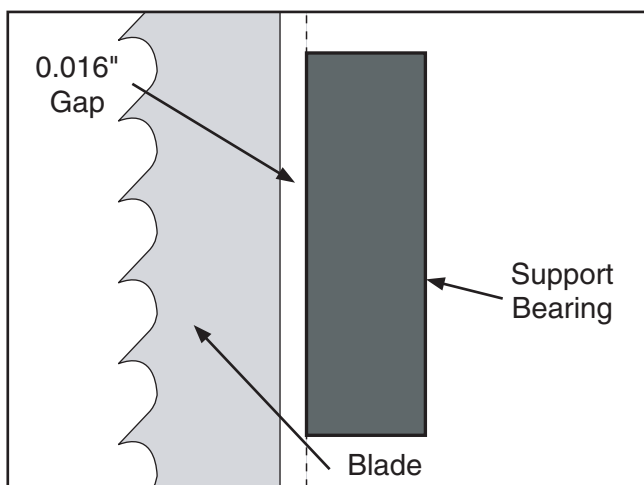
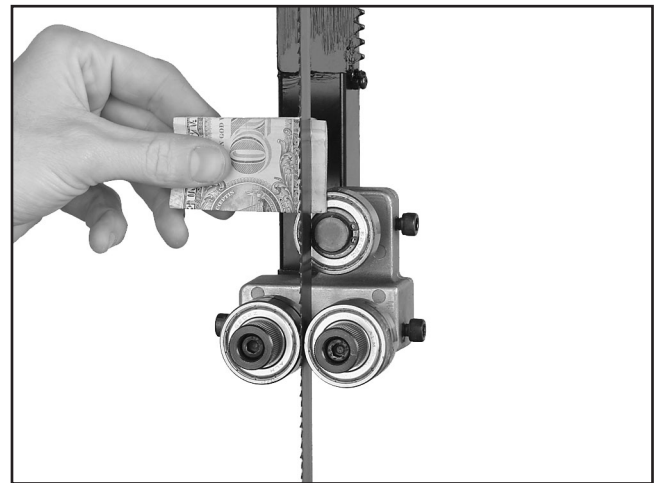

Figure 13. Blade aligned 0.016" away from the bearing edge.
Figure 14. Dollar bill folded twice to make an approximate 0.016" gauge.
- Using a 0.016" feeler gauge between the support bearing and the blade, position the bearing 0.016" away from the back of the blade as illustrated in **Figure 13**.
Note: For a quick gauge, fold a crisp dollar bill in half twice (four thicknesses of a dollar bill is approximately 0.016") and place it between the support bearing and the blade as shown in **Figure 14**.
6. Using a 0.016" feeler gauge, position the bearing 0.016" away from the back of the blade as illustrated in **Figure 13** or use a dollar bill as shown in **Figure 14**.